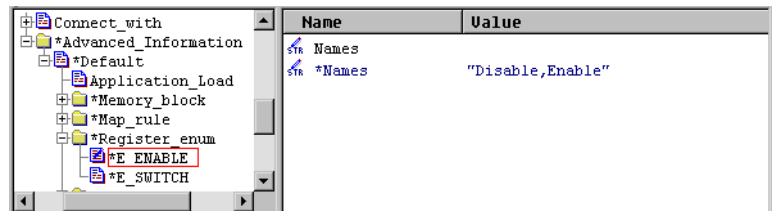

Figure 3-30 Creating enumerations
7. Set the value of the Names entry, in the right pane, to Disable,Enable, shown in Figure 3-30.